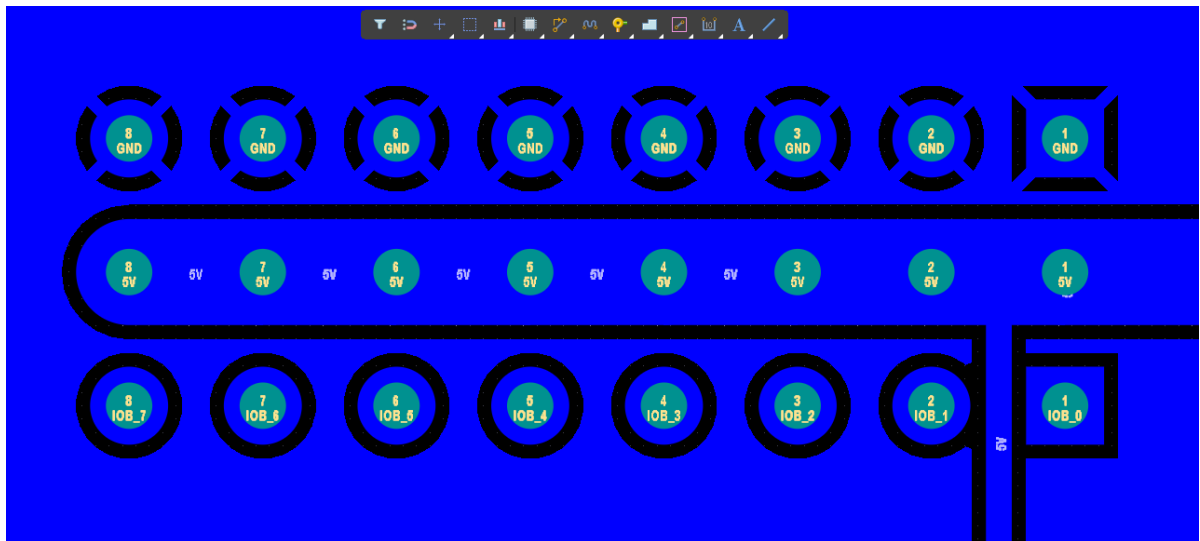

Figure 20. Repoured polygon
59. Go to **Tools » Polygon Pours » Repour All**. Note that the pads are now connected to the polygon as specified in the Design Rules. Figure 20.